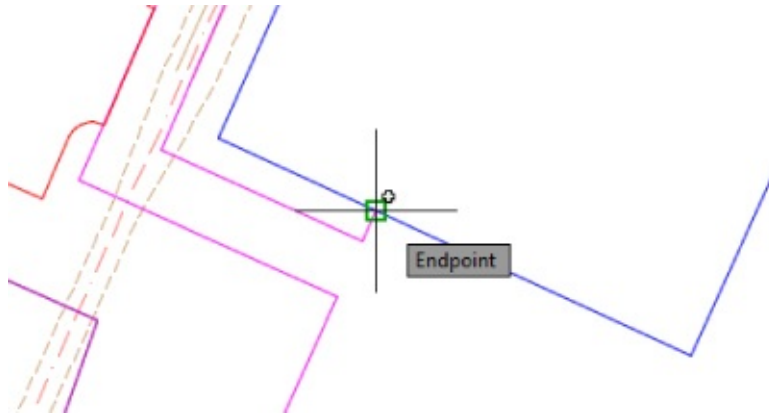

Figure 14.28 Using Set Elevation By Reference on the south side of the building
- a. At the Specify reference point: prompt, Endpoint Osnap on first PI of the magenta feature line at point 1 on the south side of the building, as shown in Figure 14.28.